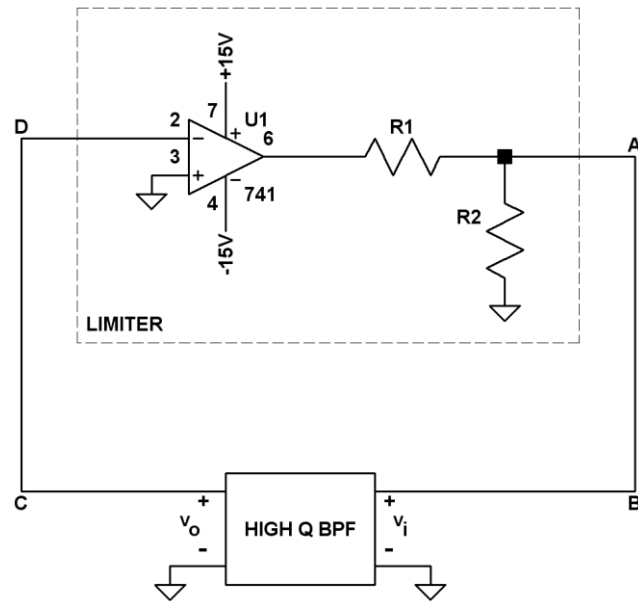
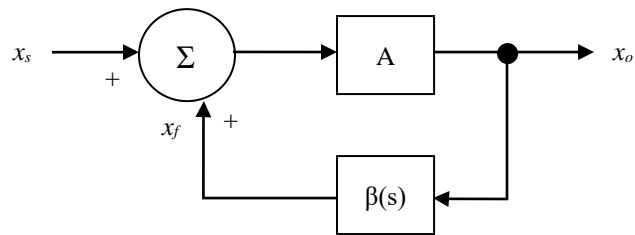

Figure 1. Active-Filter-Tuned Oscillator. See section 18.2.4 of [1] for a discussion.
Figure 2. Linear System with Positive Feedback. See Figure 18.1 of [1] and related text for a discussion.
3. Review the circuit of Figure 1. Node C is the circuit output (there is no “input” - this is an oscillator!)
4. Consider the block diagram of Figure 2. This is a model of the circuit of Figure 1 in which the nonlinear limiter is replaced by a linear amplifier of gain A and the bandpass filter is represented by a frequency selective network $\beta(s)$. Derive the ratio $X_o(s)/X_s(s)$ and determine the two conditions which will cause this system to oscillate.
1. “LINEAR” OSCILLATOR CIRCUIT CONSTRUCTION. Construct the circuit of Figure 1. Denote the center frequency of the bandpass filter as f_0 . Node B is the input of the bandpass filter while node C is the output. Node D is the input to the limiter while node A is the output. Insure that there is ONLY ONE GROUND for the entire circuit. The op-amps share the same ± 15 V supplies.